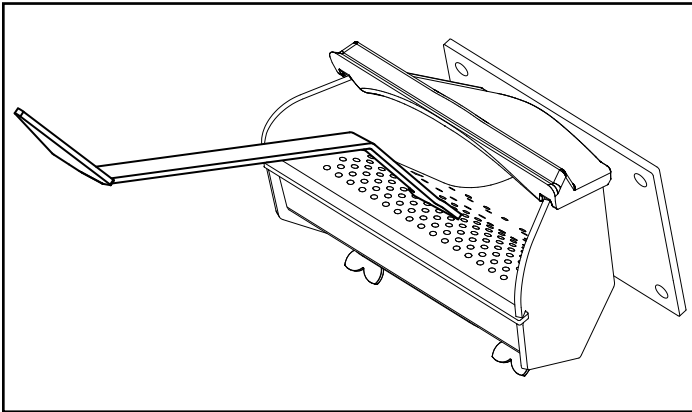

Figure 2.1
- Using flame resistant gloves, vigorously scrape the top holed surface and sides of the burn pot down to auger tube, be sure to concentrate in the neck of the burnpot. Figure 2.1.